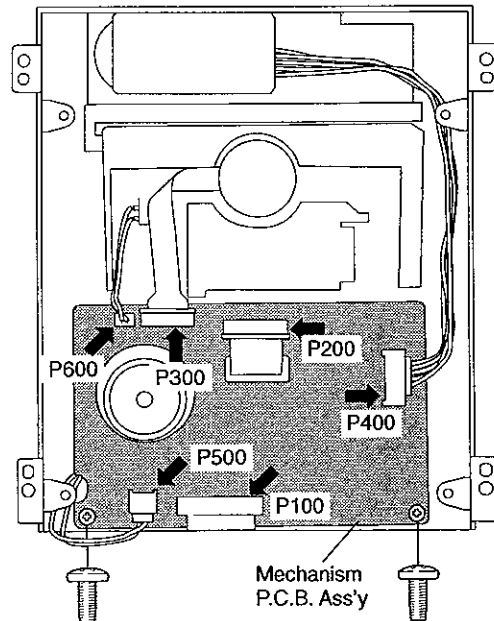

Fig. 2.7.2 Bottom View
- (3) Carefully disconnect the two cables from the connectors P400, P500 and P600, and the two flat cables from the connectors P100, P200 and P300 on the Mechanism P.C.B. Ass'y. See Fig. 2.7.2.
- (4) Remove the two screws and detach the Mechanism P.C.B. Ass'y from the Traverse Mechanism.
- (1) Remove the Main P.C.B. Ass'y referring to item 2.5.
- (2) Disconnect the connector P300 on the Mechanism P.C.B. Ass'y. See Fig. 2.7.2.